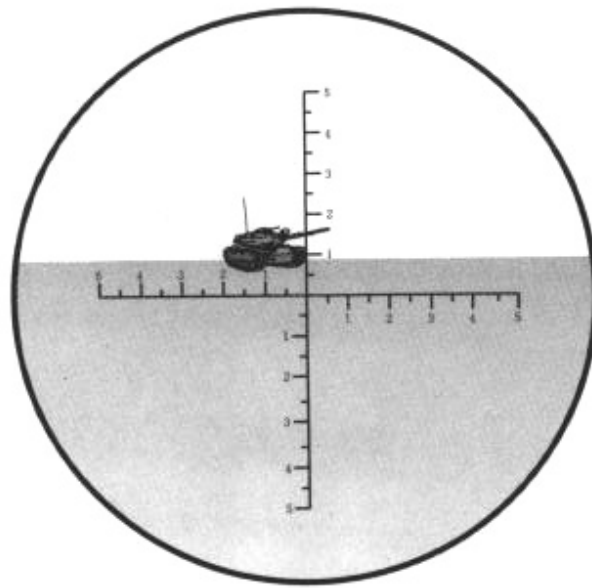

Fig. 42
A. When the azimuth of "Object" measured is lower than the reticle range ( $\pm 50$  mils), measure the azimuth by fitting "Object" with the reticle or the middle reticle. For an example shown in Fig. 42, the azimuth of "Tank" as "Object" is measured to be 20 mils (20-00 mils).